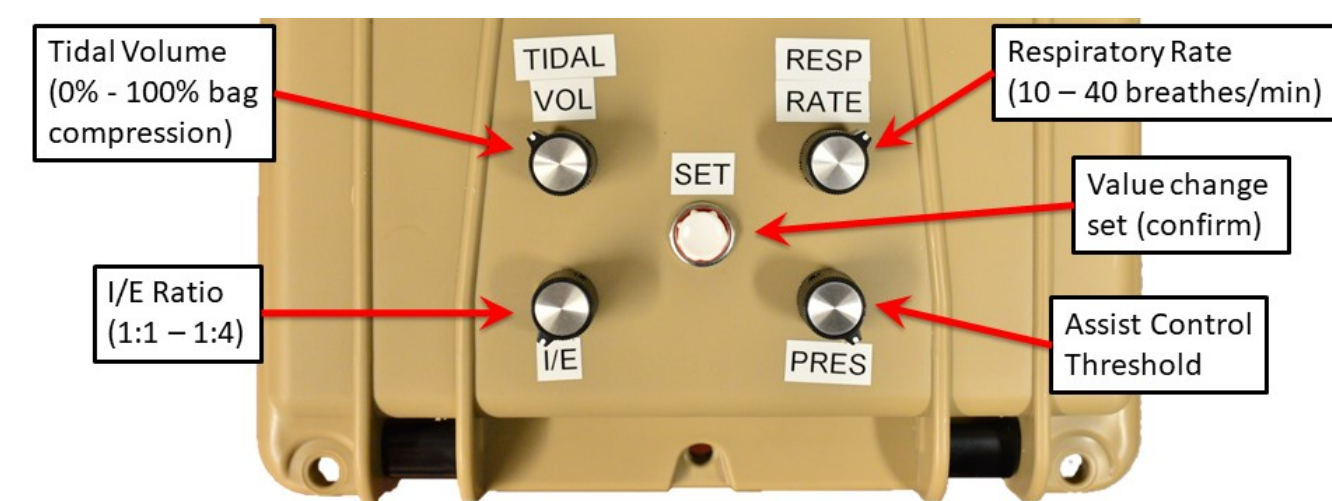
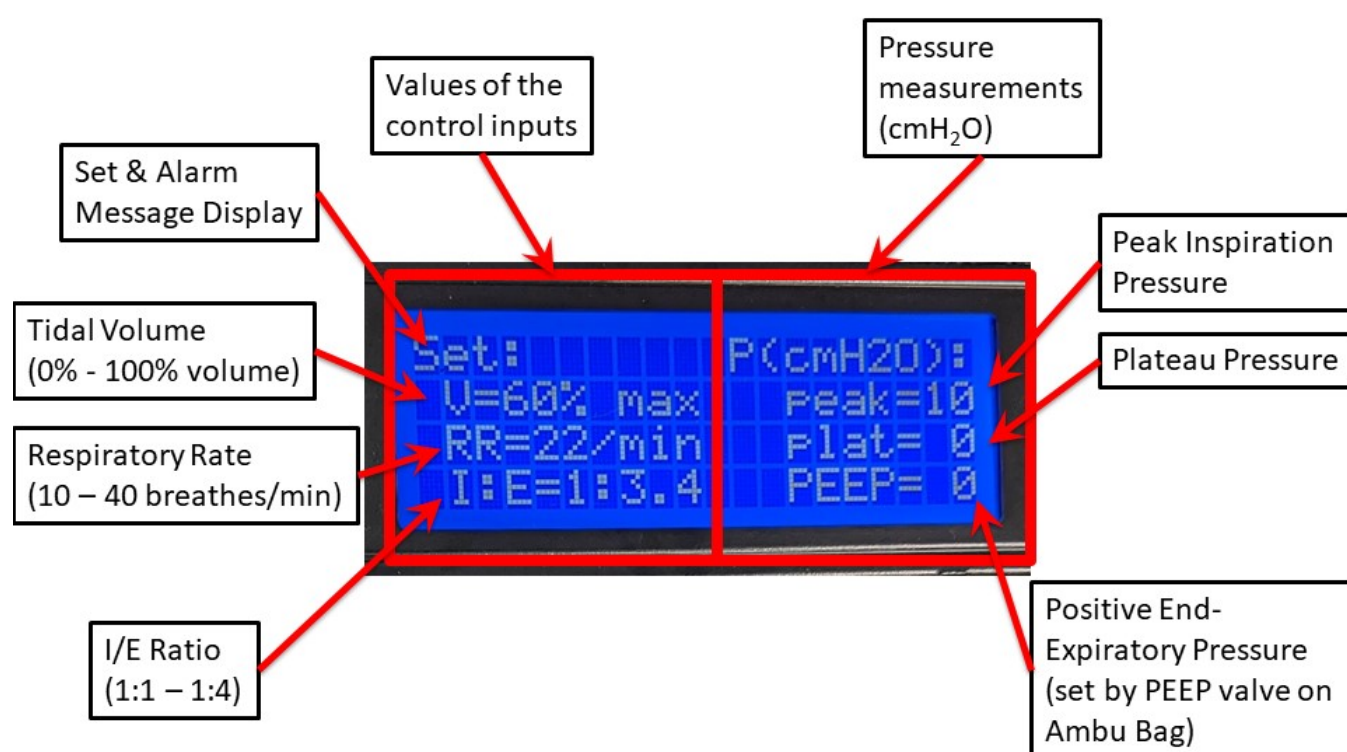

Figure 2. Control the ventilator and read pressure information from the top of the control box.
Figure 3. There are 6 pieces of information displayed on the LCD screen which update after each breath cycle. Alarm messages will display on the top bar.
3. Ensure that all dials shown in Figure 2 are turned counter clockwise to the lowest position.
6. Set the desired *Respiratory Rate*, *Tidal Volume* and *I:E* knobs, as shown in Figure 2, and confirm the values on the display shown in Figure 3. Press the *Get* button to apply.
display, shown in Figure 3. Press the *Set* button to apply.